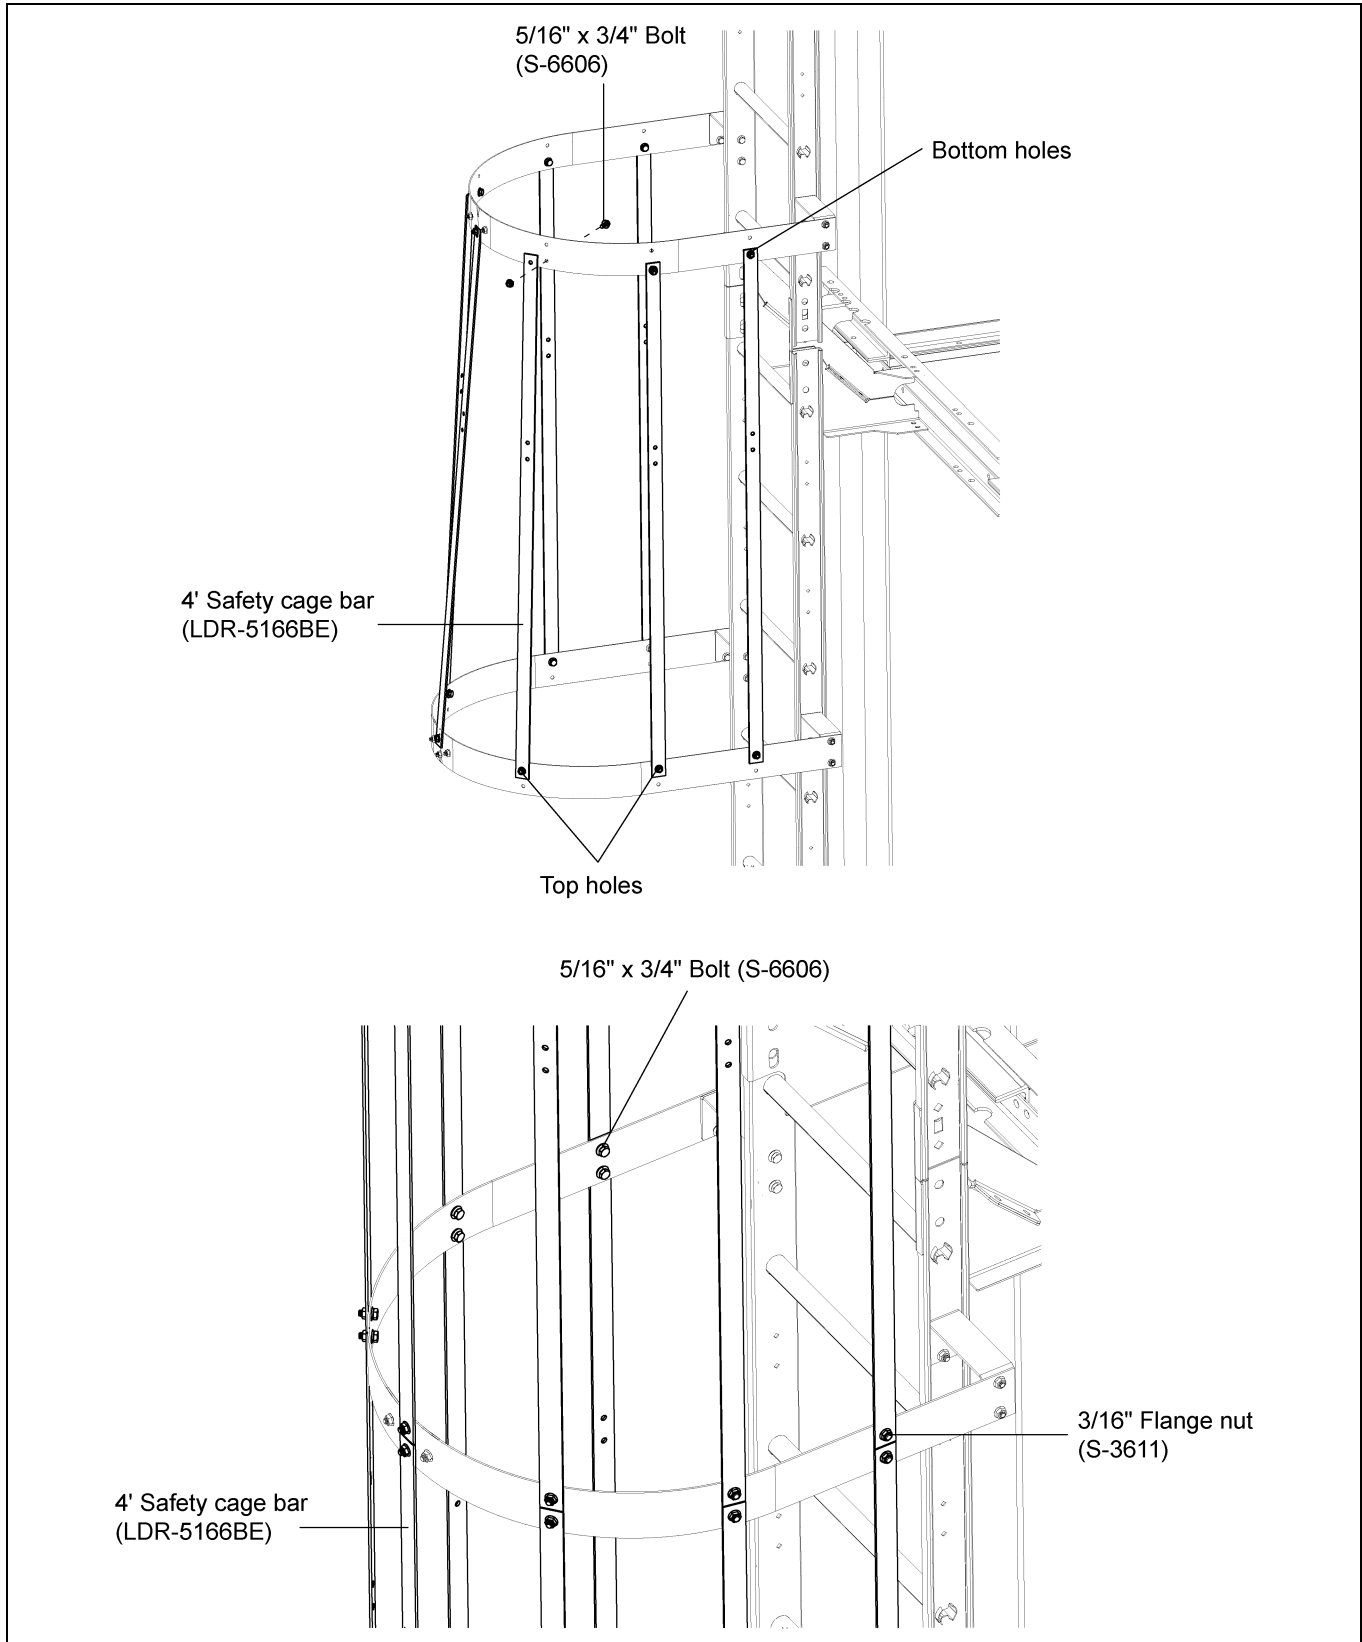

Figure 5Q
4. Attach the vertical bars to the top holes in the safety cage entrance hoop and the bottom holes of the standard safety cage hoop. Use 5/16" x 3/4" bolts and nuts. Installing safety cage bars to each hoop section. (See Figure 5Q.)